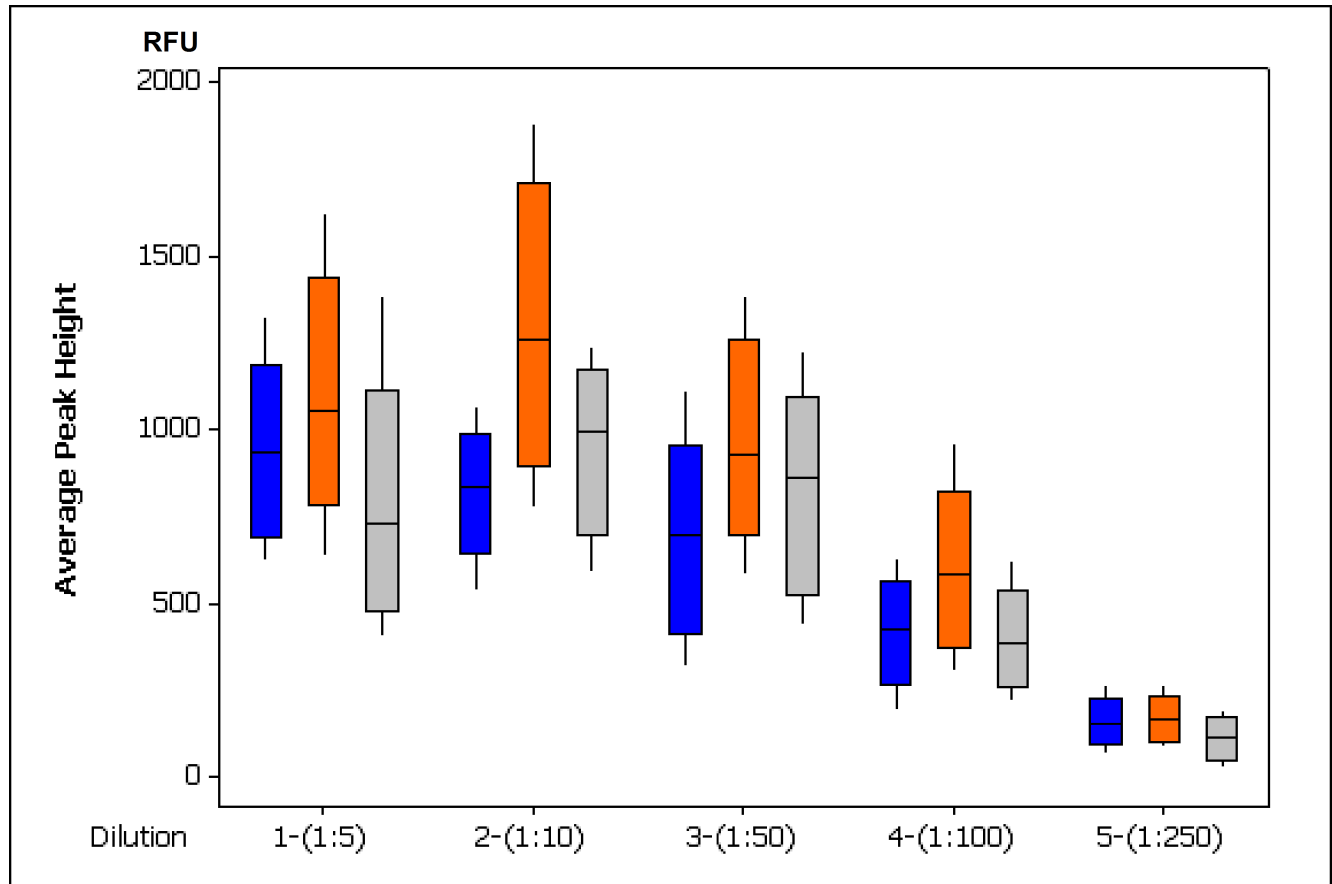

Figure 21 HID EVOLUTION™ —Combination System—Average peak heights from AmpFℓSTR™ Identifiler™ PCR Amplification Kit STR profiles
- DNA concentration results are shown in Table 19 below and Figure 21 on page 117